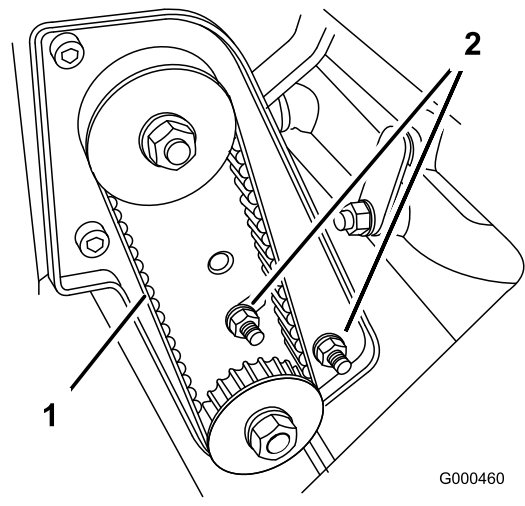

Figure 38
- A. Loosen the bearing housing mounting nuts (Figure 38).
- C. While holding the torque wrench setting, tighten the bearing housing mounting nuts (Figure 38). Do not over-tension belt.